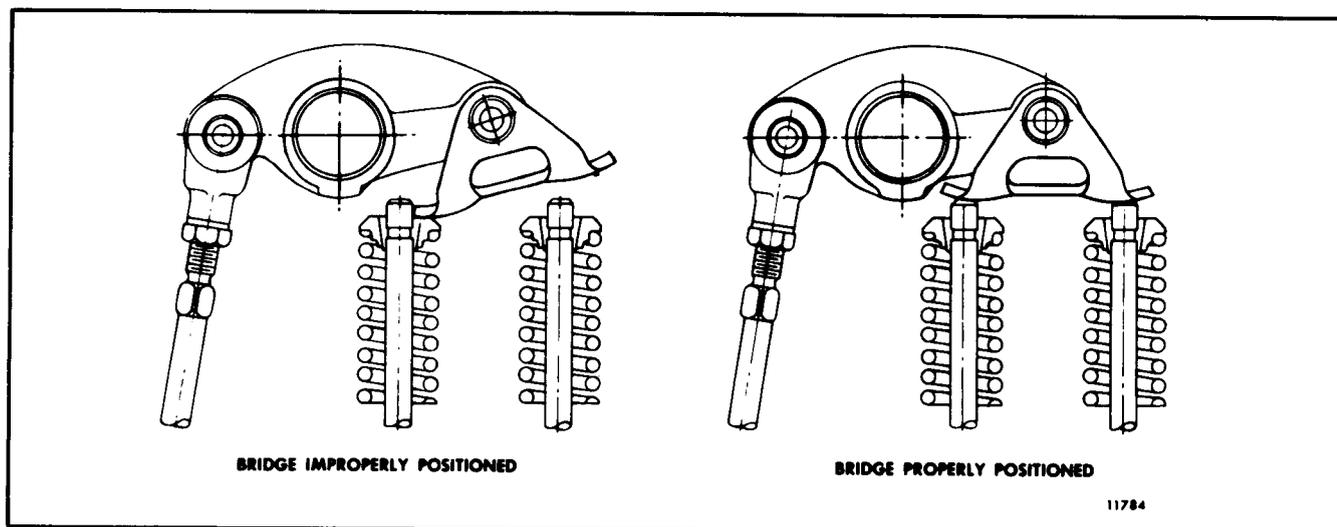

Fig. 44 - Relationship Between Exhaust Valve Bridge and Valve Stems
**NOTE:** On four valve cylinder heads, there is a possibility of damaging the exhaust valves if the exhaust valve bridge is not resting on the ends of the exhaust valves when tightening the rocker shaft bracket bolts. Therefore, note the position of the exhaust valve bridge (Fig. 44) before, during and after tightening the rocker shaft bolts.